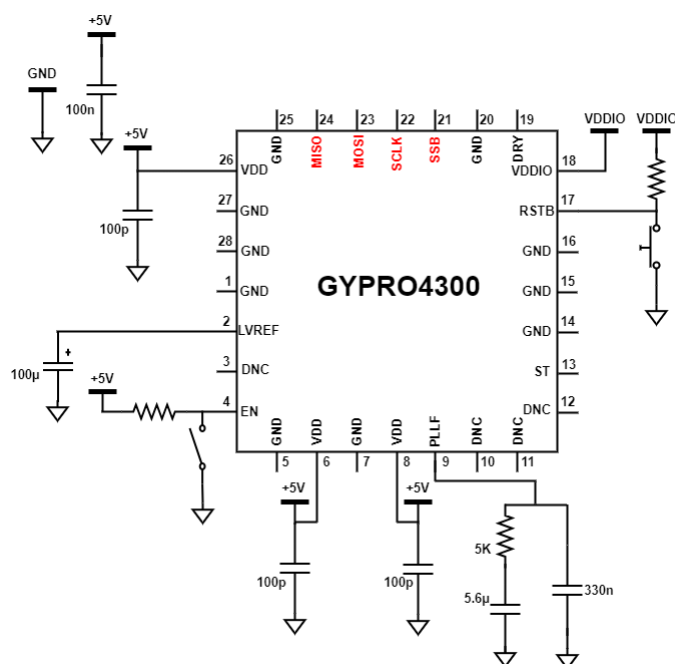

Figure 14: Recommended Application Schematic (top view)
- All capacitances of Figure 14 should be placed as close as possible to their corresponding pins, except the 100nF capacitance between VDD and GND, which should be as close as possible to the board's supply input.